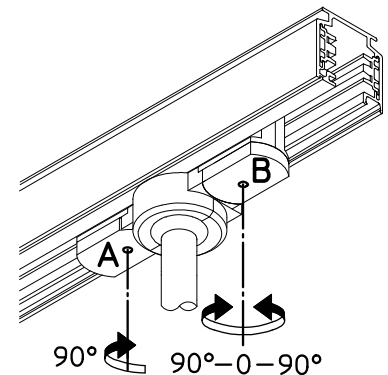

Figure 12: Installing Fixture on Track
Step 2. As shown in **Figure 12**, connect fixture to track as follows:
Gallery Canopy or Pendant DMX controlled models offer a connection block (Figure 12) inside the luminaire’s canopy. For portable units (refer to “RJ45 / XLR Connectors”).